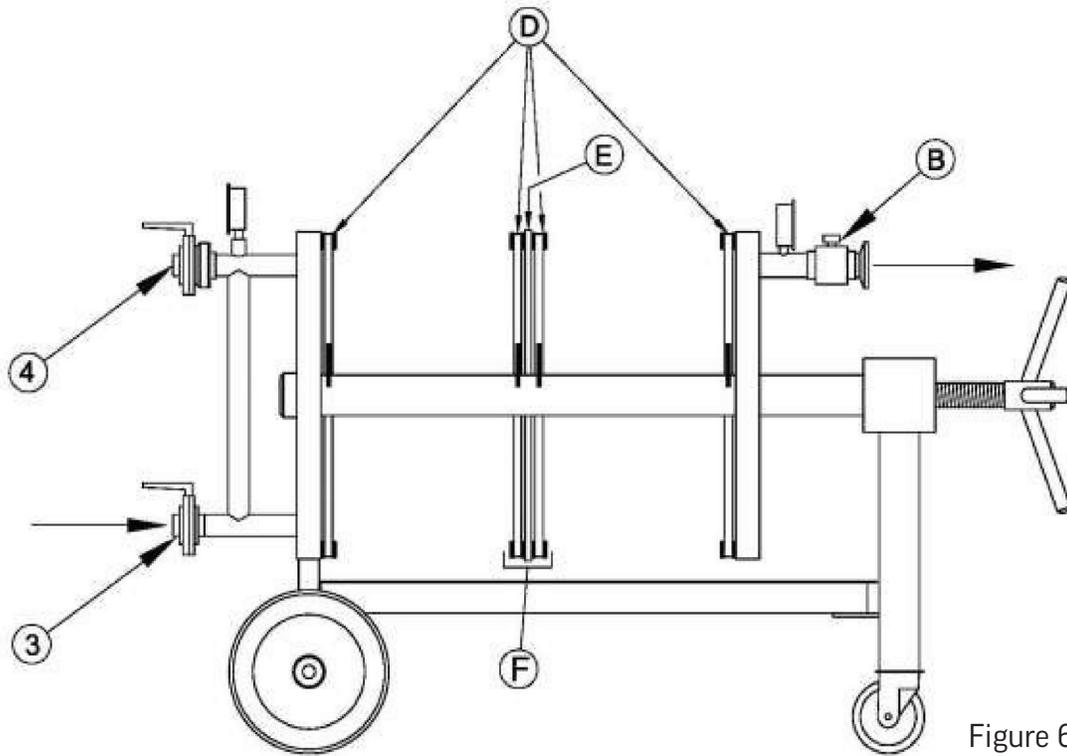

Figure 6
3. When adding an inversion plate, it is important to note the flow direction. The inlet (Figure 6, #3), where the wine enters the filter, is positioned at the mobile head plate. While the outlet (Figure 6, B), where the filtered wine exits, is located at the fixed head plate.